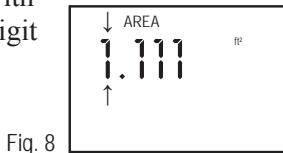

Fig. 8
2. Press MODE SELECT once. You will hear one beep and see AREA and 1.111 with a flashing digit (fig. 8).